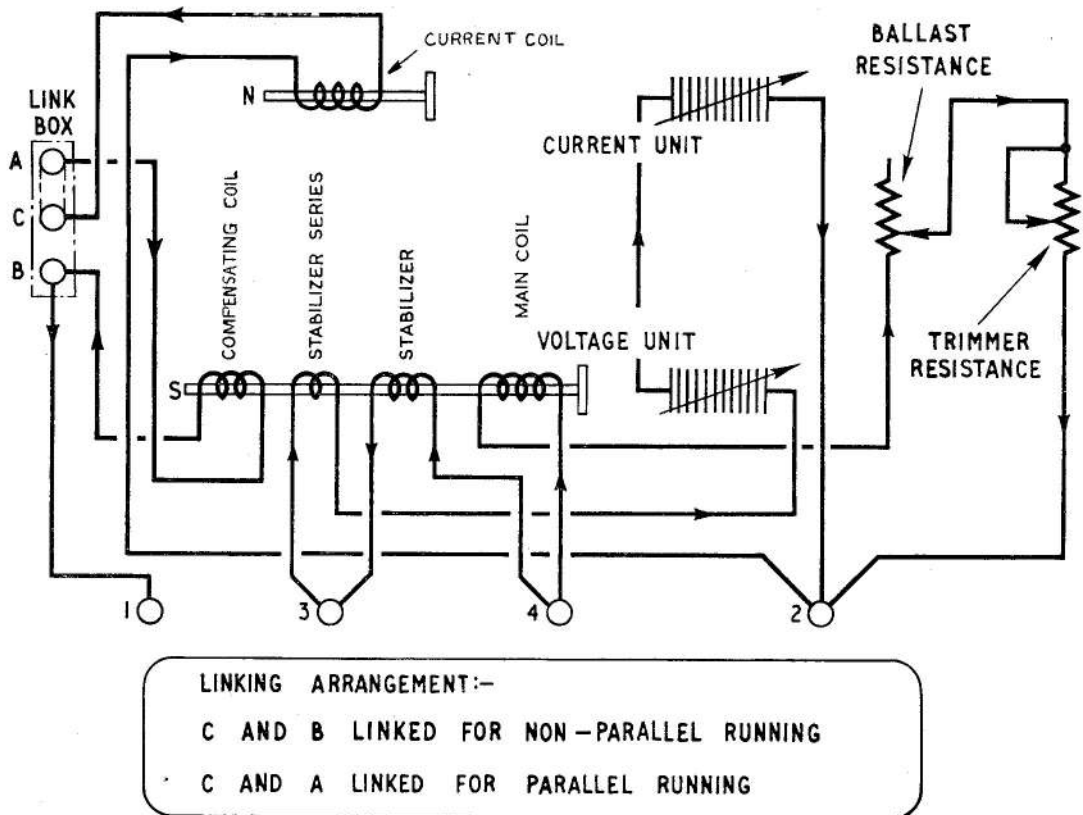

Fig. 3. Circuit diagram
4. Besides the main operating coil and the compensating winding, the voltage unit incorporates two stabilizing windings, which can be seen in the circuit diagram in fig. 3. These are a high-resistance winding connected across the field, acting in the same direction as, and superimposed on, the main coil, and also a coil wound in series with the pile to balance the effect of the shunt stabilizing coil under steady conditions. With rapid changes of speed or load the shunt